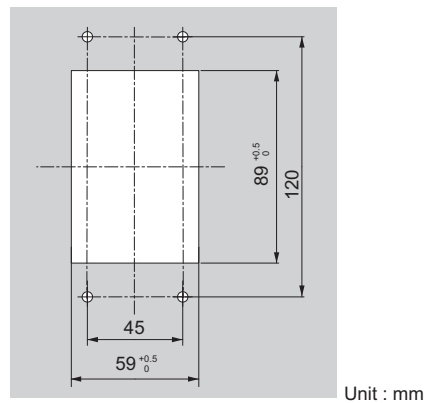

Figure 2.10 Panel Cut-Out Dimensions (Internal/Flush-Mount Installation)
1. Cut an opening in the enclosure panel for the digital operator as shown in *Figure 2.10*.